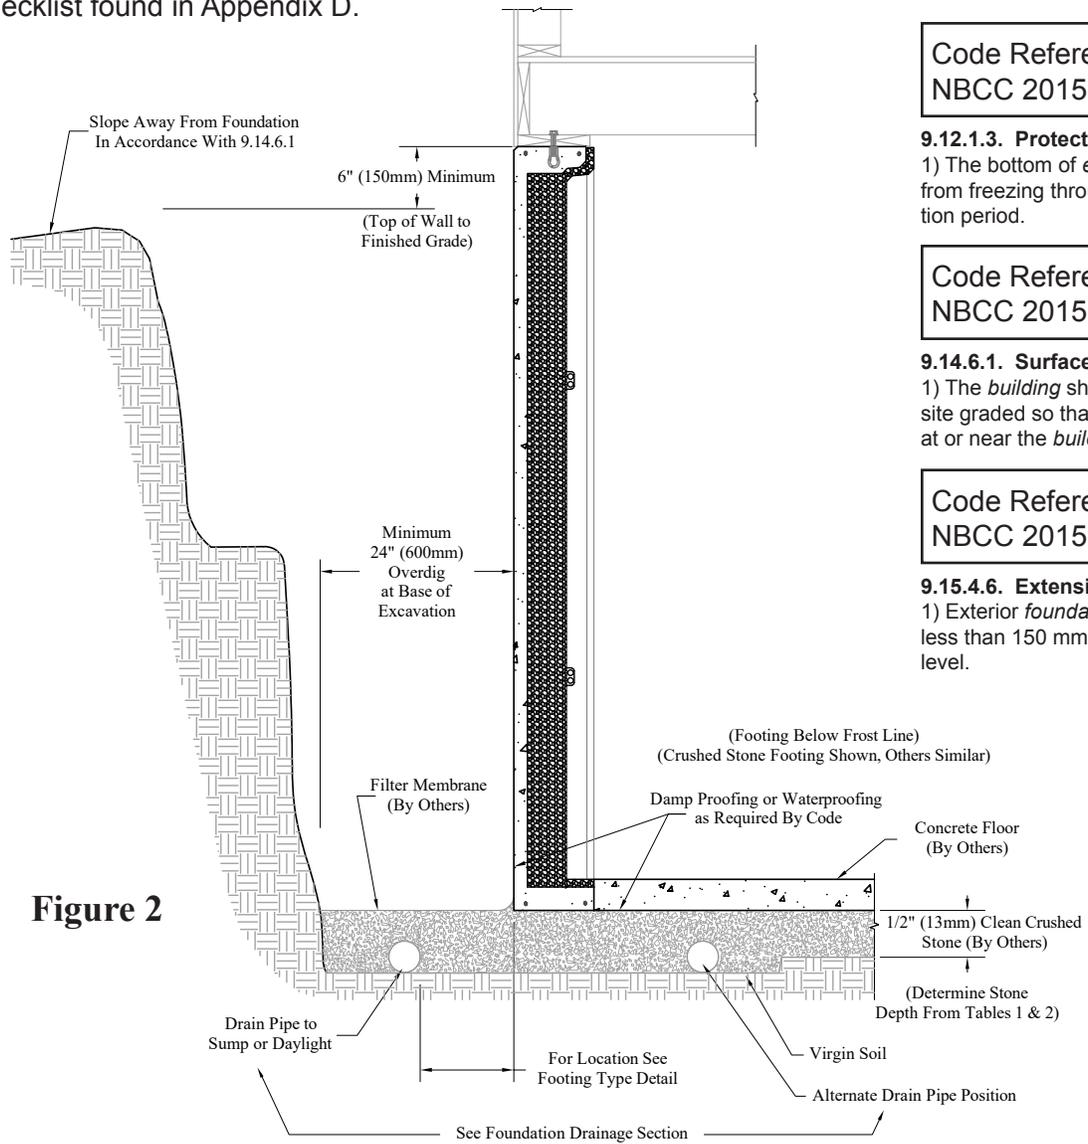

Figure 2
- See Figure 2, below, for the typical basement excavation detail with full backfill.
- 12" (300 mm) dimension applies to both interior or exterior pipe location. (See Figure 2.)
- See Figure 2 on page 9.